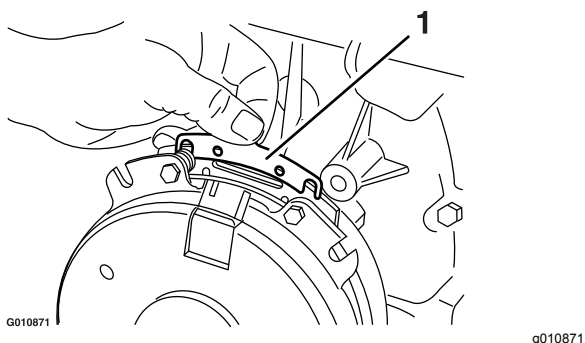

**Figure 75**
- A. Loosen both brake mounting bolts 1/2 to 1 full turn as shown in Figure 75.